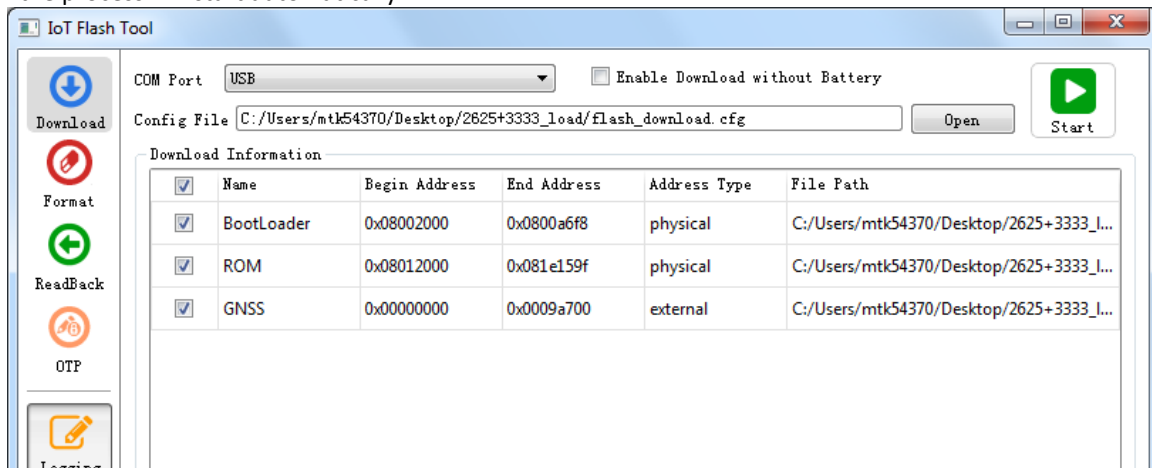

Figure 4. Download the firmware to MT2625 platform by use USB connection
5) Click **Open** to choose the configuration file, which is usually named as `flash_download.cfg` and is generated after build process. If it loads successfully, **Download Information** will be displayed, including **Name**, **Length** and **File Path** of the firmware binary, as shown in Figure 4.